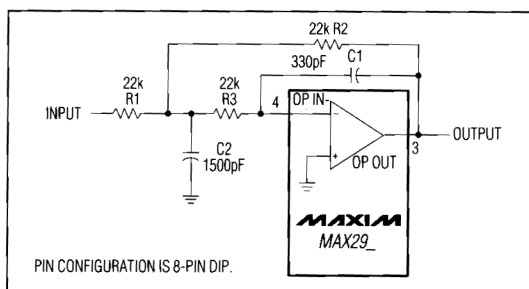

Figure 4. Uncommitted Op Amp Configured as a 2nd-Order Butterworth Lowpass Filter ($F_0 = 10\text{kHz}$)
The uncommitted op amp has its noninverting input connected to the GND pin, and can be used to build a 1st- or 2nd-order continuous-time lowpass filter. This filter is intended for anti-aliasing applications preceding the switched-capacitor filter, but it can be used as a post-filter to reduce clock noise. Figure 4 shows one of many filters that can be built with this op amp: a 2nd-order Butterworth filter with a 10kHz corner frequency and an input impedance greater than 22kΩ. Table 1 gives alternative component values for different corner frequencies of the same Butterworth filter.
Table 1. Component Values for Figure 4's Filter
As the passband ripple of the MAX293/MAX294/MAX297 elliptic filters is of the order of $\pm 0.1\text{dB}$, it is normally appropriate to keep the passband errors of any anti-aliasing filter at or below this level. This is achieved by choosing the corner frequency of Figure 4's Butterworth filter (f_{cB}) to be higher than the corner frequency of the elliptic switched-capacitor filter (f_{cE}) by a factor of 2.5 or more. A factor of 5 or more is recommended to avoid problems with component tolerances, i.e. $f_{cB} > (5)(f_{cE})$.